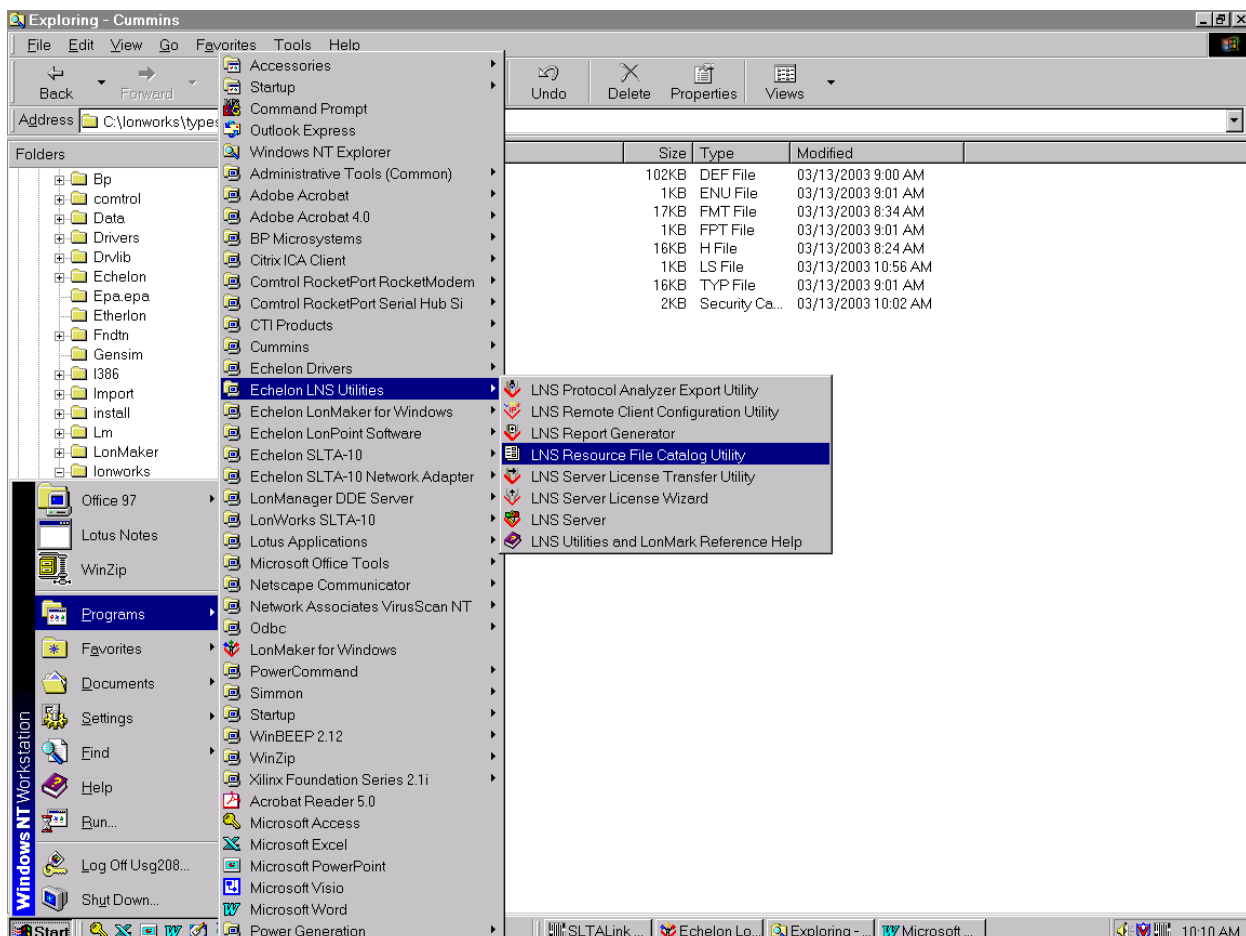

FIGURE G-1. STARTING THE LNS RESOURCE FILE CATALOG UTILITY PROGRAM
- b. From the Windows "Start" button, start Echelon's "LNS Resource File Catalog Utility" (see Figure G-1).